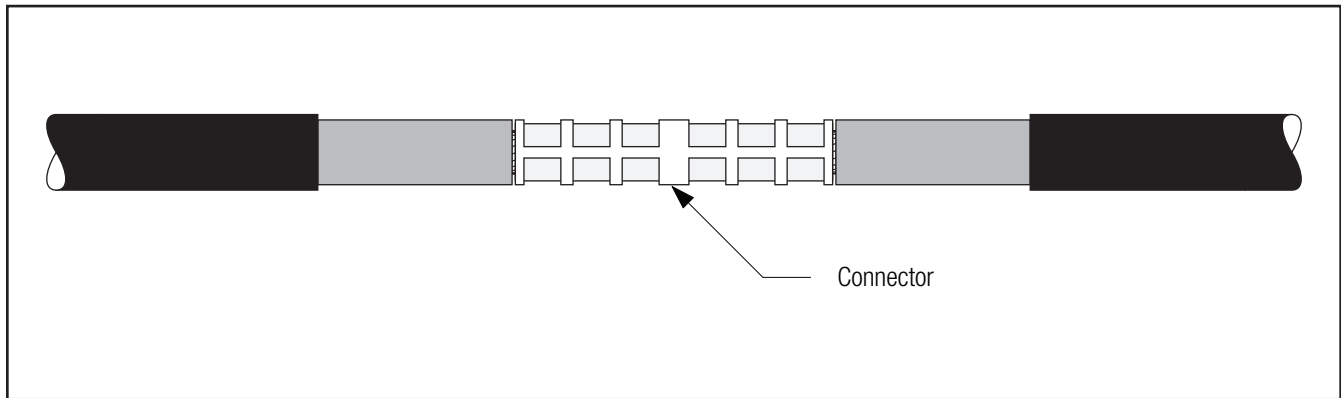

Figure 16
- 4.5 Install connector. See table (on cover) for proper connector dimensions. (For standard 3M™ Connectors, refer to table at the end of this instruction for crimping information). Remove any excess oxidation inhibitor from connector ends if aluminum connector is used. File sharp connector flashing if necessary, taking care to remove all metal filings from splice area (*Figure 16*).